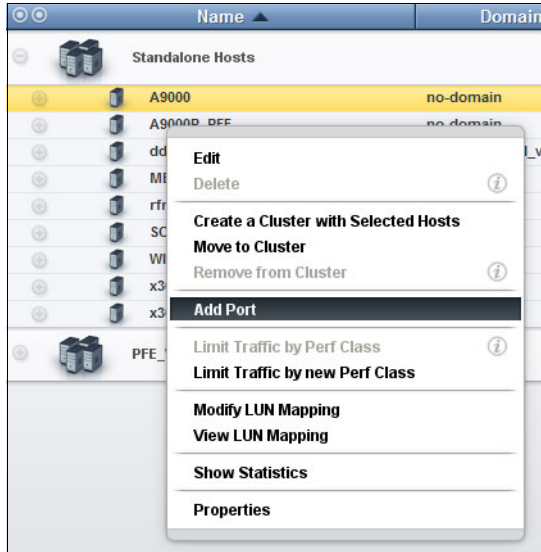

Figure 8-31 Navigating to Add Port
3. Right-click the host as shown in Figure 8-31 to add ports.